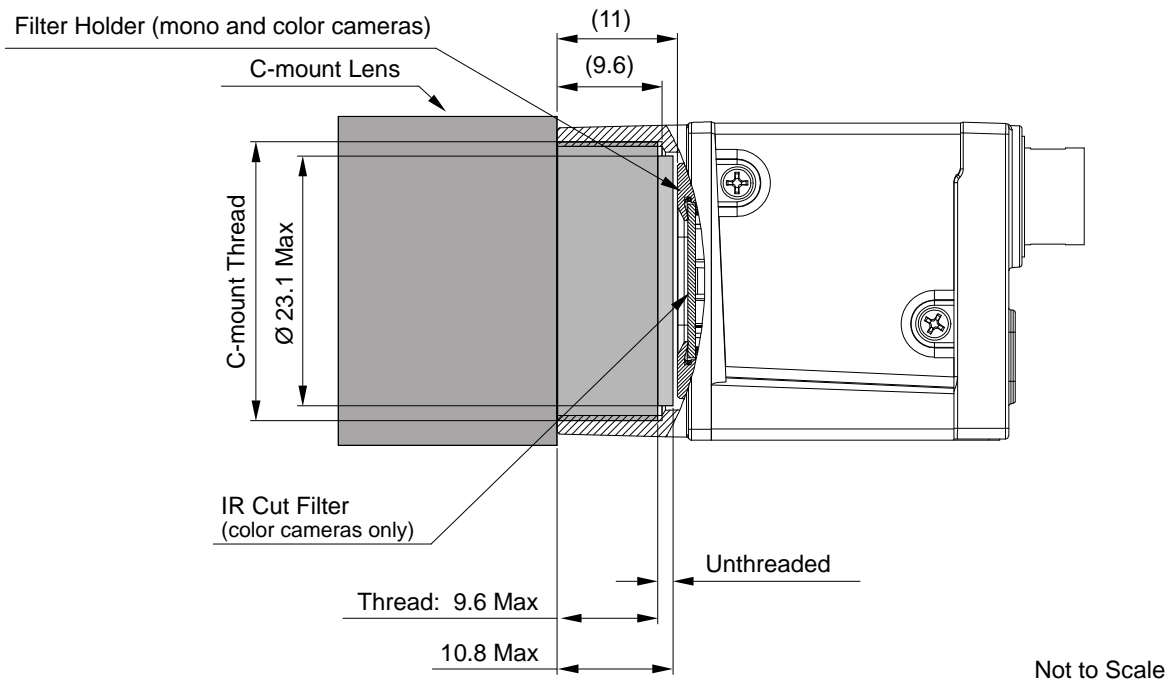

Fig. 25: Maximum Lens Thread Length (Dimensions in mm) for Cameras with the C-mount
- Camera with C-mount (see Figure 25):